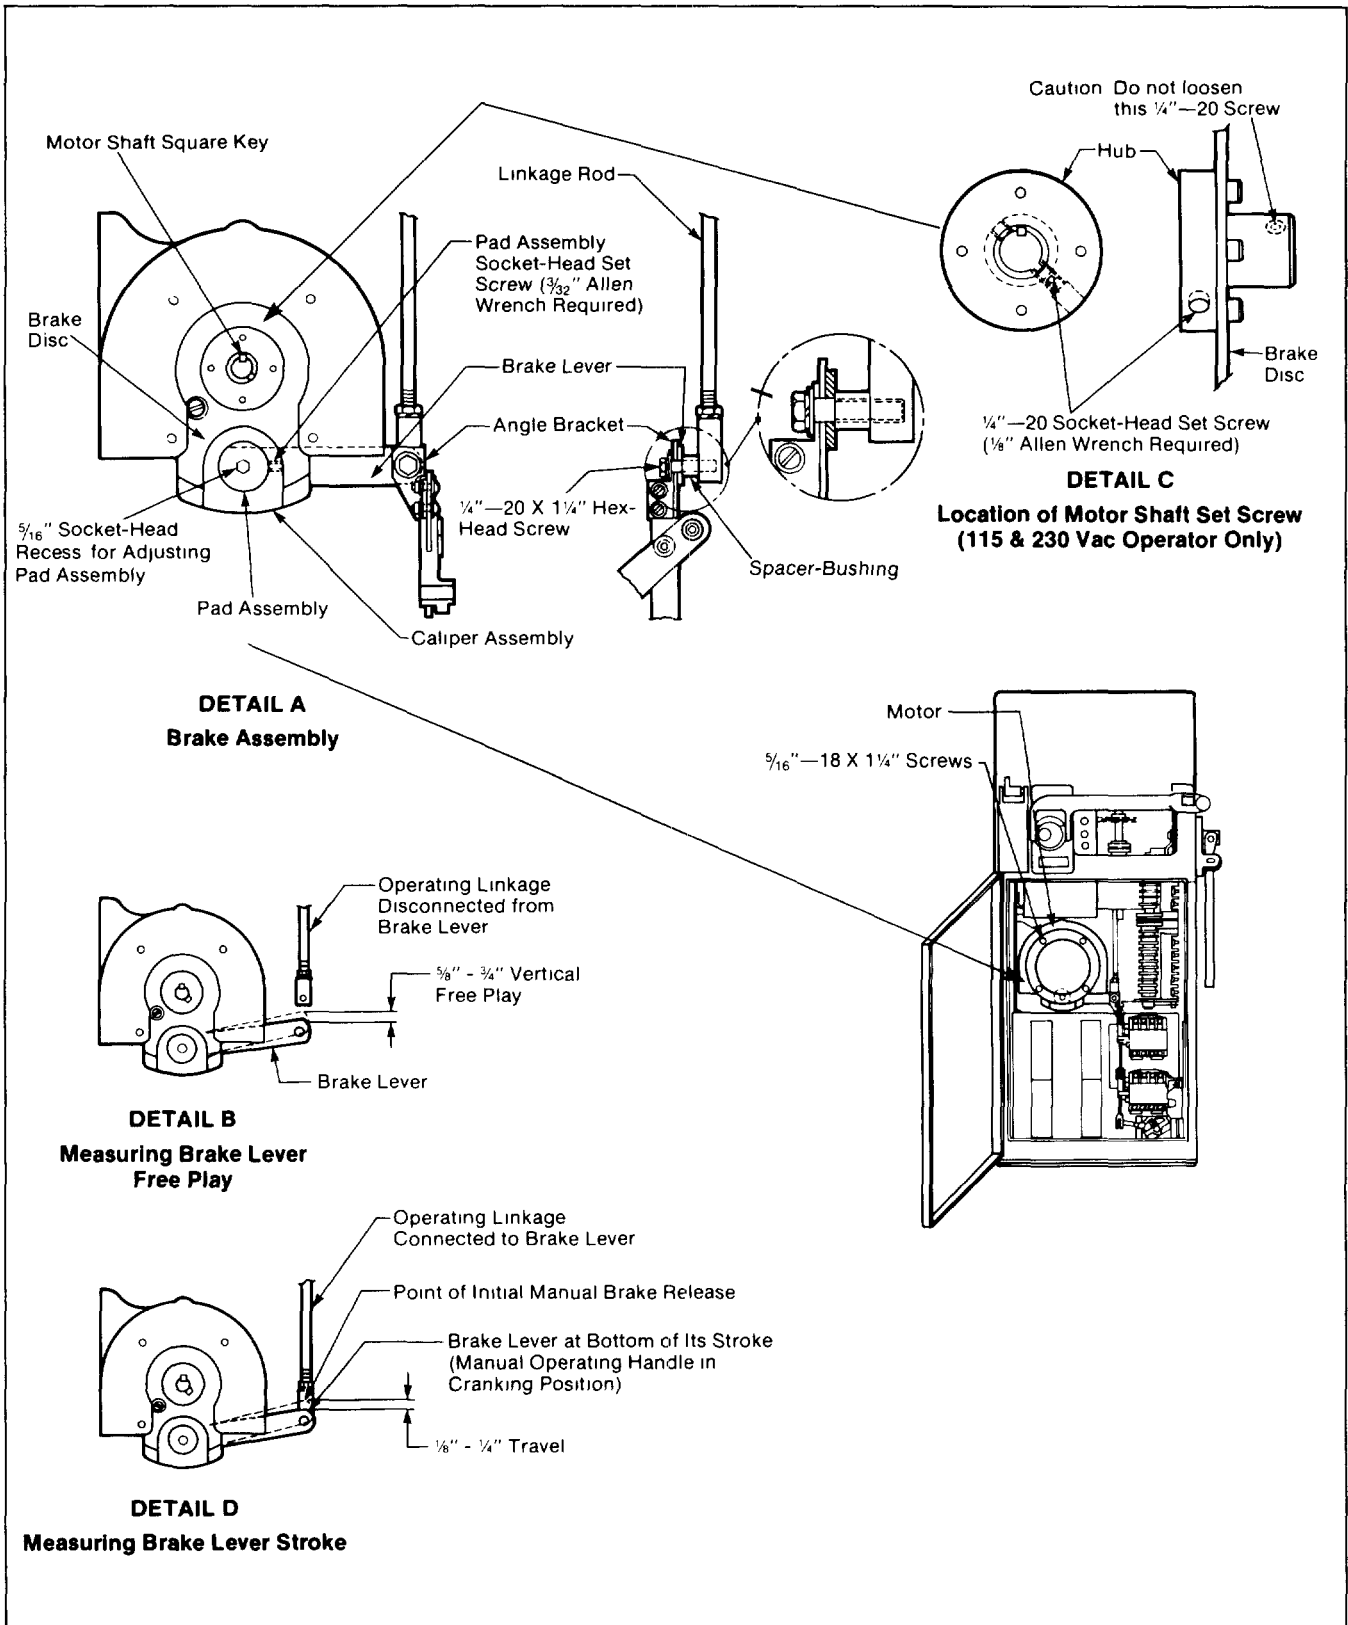

Figure 6. Brake inspection procedure.
The brake in the Type CS-10 Switch Operator should be inspected every 2500 operations or 5 years, whichever occurs more often. The inspection procedure is as follows. See Figure 6.
10. Finally, to check the functioning of the brake, decouple the operator and then open and close the operator electrically. After each operation, check the position of the indicator on the appropriate travel-limit disc: it should stop between indicator-plate numbers 2 and 8. See Figure 6. Should the indicator on the travel-limit disc stop outside this range, refer to the nearest S&C Sales Office.